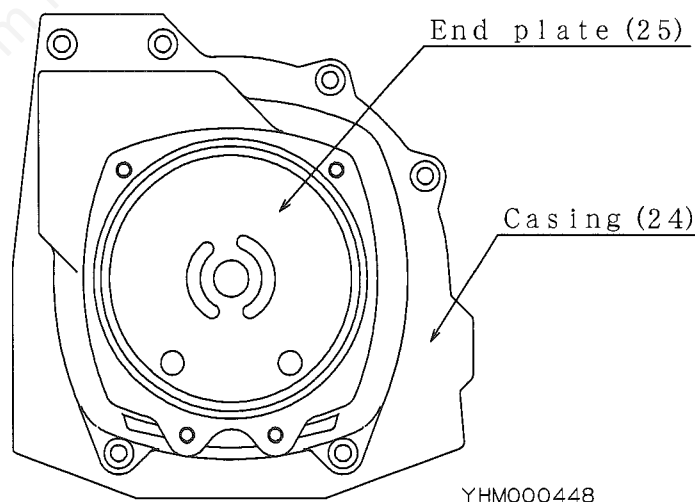

Fig. 9
- ⑤ Install End plate (25) into Casing (24). Assembling direction differs depending on the models. See fig.9.